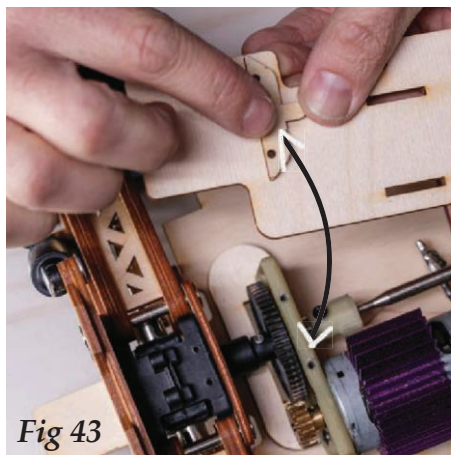

Fig 43
- 9 Stack two **B6** wood spacers, between B5 and the motor mount plate (Fig 43). Using glue, stick both B6 pieces into place on the underside of B5, then flip B5 over and use two **2.6 X 14 mm Screws** to attach it to the mounting plate (Fig 44).